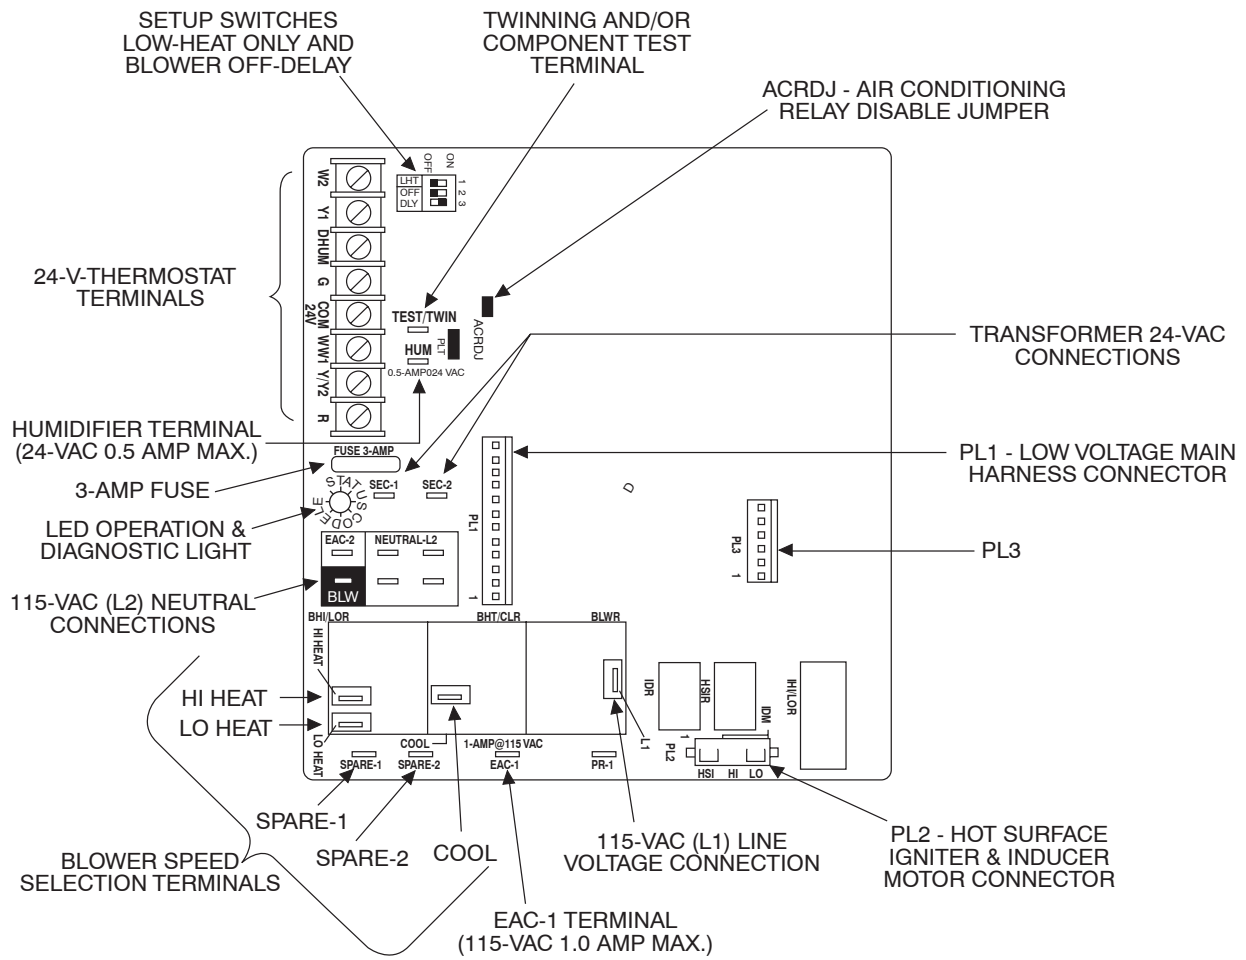

Fig. 29 - 2-Stage Furnace Control-PSC Blower Motor
7. Jumper R-W/W1 and R-W2 thermostat connections on control center. (See Fig. 29 or 30.) This runs the furnace in high-heat.
8. Turn the appropriate set-up switch on control center to the ON position, This will lock the furnace in low heat. (See Fig. 29 or 30.)
- a. For furnaces with PSC blower motors, turn LHT switch ON to lock the furnace in low-heat. (See Fig. 29.)
- c. Jumper R and W2 thermostat connections on control. (See Fig. 29 or 30.) This keeps furnace in high-heat.
- g. Turn setup switch LHT or SW1-2 on control center to OFF position. (See Fig. 29 or 30.)
f. Turn the appropriate set-up switch on control center to the ON position. This will lock the furnace in low-heat. (See Fig. 29 or 30.)
(1.) For furnaces with PSC blower motors, turn LHT switch ON to lock the furnace in low heat. (See Fig. 29.)
5. Turn setup switch LHT or SW1-2 to OFF position. (See Fig. 29 or 30.)